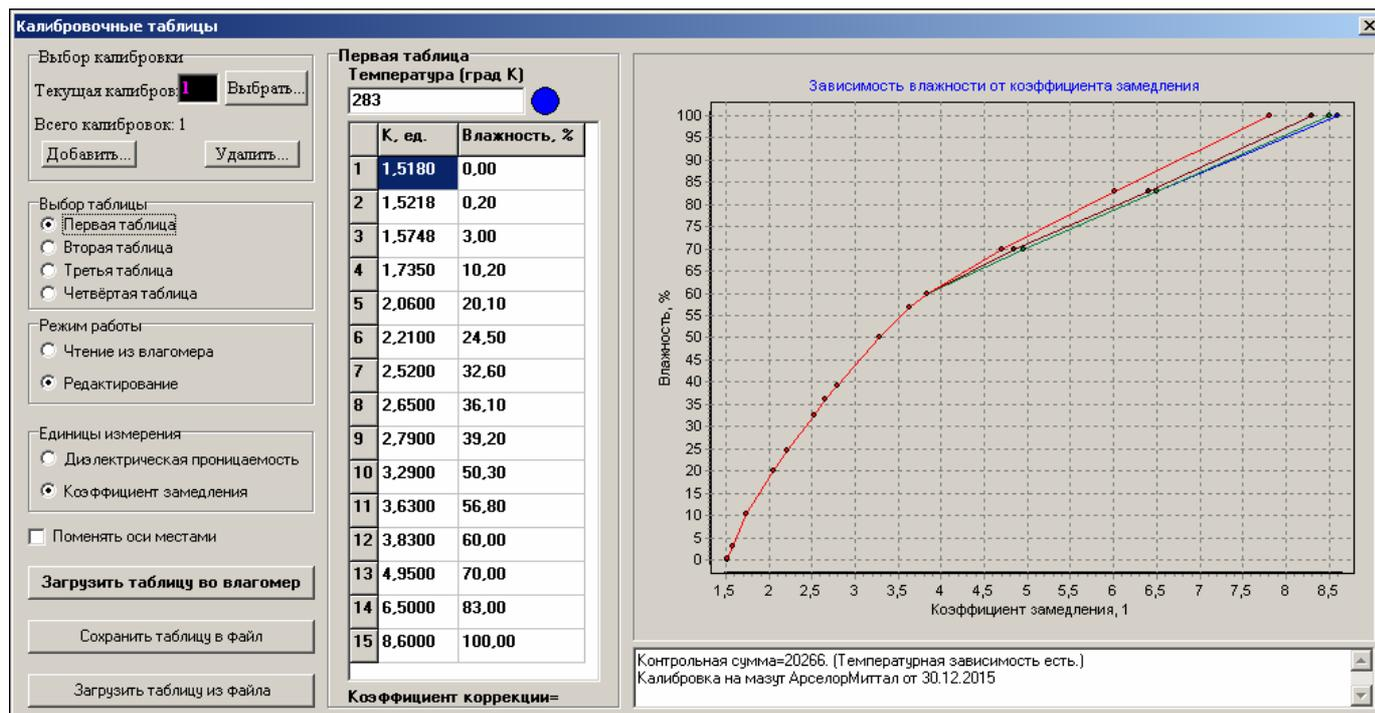

Fig. 9
To get access to tables from the SWPro main window select “Setup|Calibration tables...” menu item. After that a window will appear (Fig. 9) with “Calibration tables” caption containing controls and display elements required to view and edit tables. This window is completely identical to the same window in SW100 by its appearance and functionality (refer to Section 9).
- 2) Open calibration management window (Fig. 9).